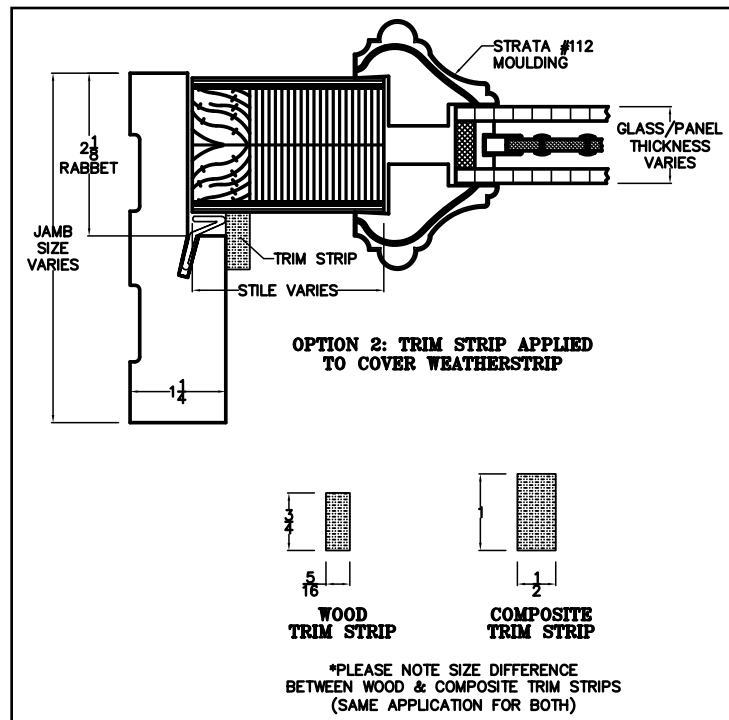

Fig. 16.1
- C1. For Custom Fiberglass Doors Only:** Insert weatherstrip in the kerfed area around the sidelight of the jamb. Once the door is completely installed, the finished trim strip may be applied with a 1-1/2" 6d finish nail. (See **Fig. 16.1** for details.)